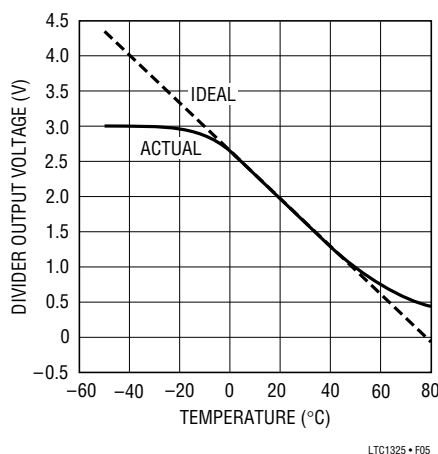

Figure 5. ERT-D2FHL103S Divider
Both values of  $\beta$  are close to each other. Substituting  $\beta = 4085\text{k}$  into equation (3) gives  $R_L = 10\text{k} [4085 - (2 \times 298)]/[4085 + (2 \times 298)] = 7.45\text{k}$ . The nearest 1% resistor value is 7.5k. Figure 5 shows a plot of  $V_{DIV}(T)$  measured at various temperatures for this thermistor with a 7.5k  $R_L$ .
Note that the discharge limits are wider than the charge limits. To prolong battery life, manufacturers generally recommend discharge temperatures that are similar to the charge limits. For this reason, the LTC1325 recognizes the same LTF and HTF limits in both charge and discharge modes. MCV should be set just above the charging voltage per cell given in battery specifications. The voltage at the LTF and HTF pins should be set to correspond to narrowest temperature range. These are typically 15°C and 45°C. The corresponding voltages may be read from the thermistor divider temperature curve such as that shown in Figure 5. For this thermistor, it works out to be about 2.12V for LTF and for 1.13V for HTF. The MCV may be conveniently tied to LTF since MCV is typically 2V. If desired, external analog switches under microprocessor control may be used to vary the LTF, HTF and MCV voltages between modes or for different charge rates. The values of R1, R2, R3 and R4 in Figure 3 can be calculated from the following equations: